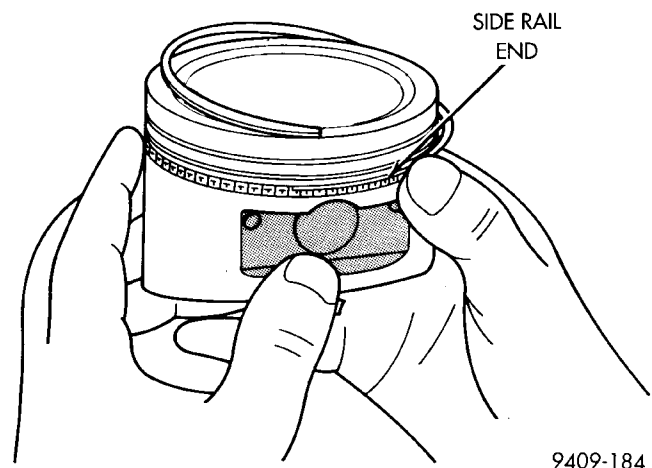

Fig. 82 Installing Side Rail
- Install the side rail by placing one end between the piston ring groove and the expander. Hold end firmly and press down the portion to be installed until side rail is in position. **Do not use a piston ring expander (Fig. 82).**